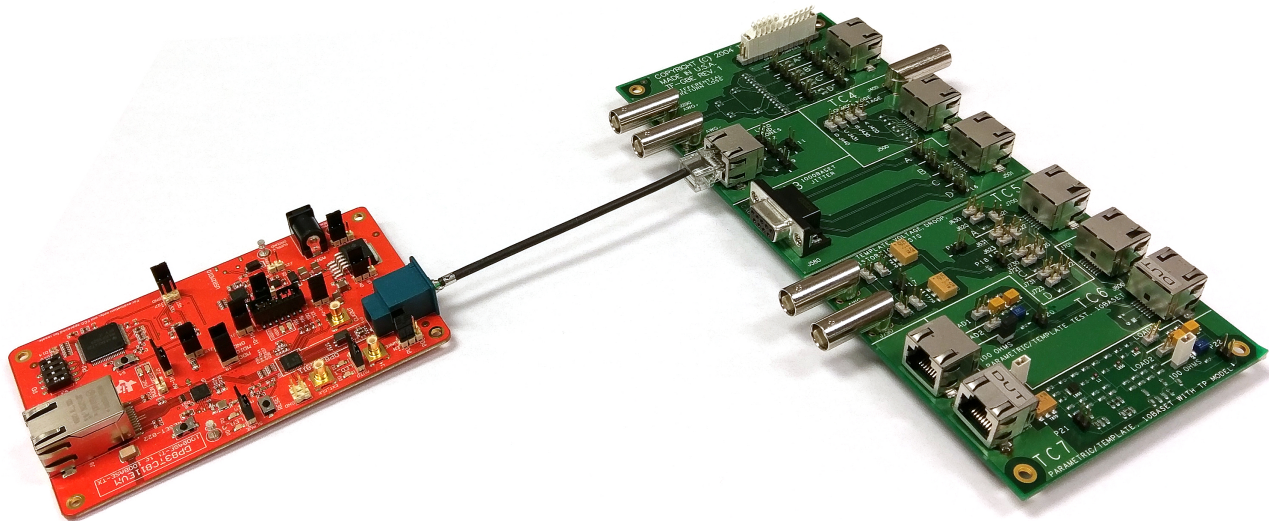

Figure 1. DP83TC811EVM Connected to a Test Fixture
2. Connect the EVM to the test fixture according to the setup outlined in the test fixture/software manual, see Figure 1.